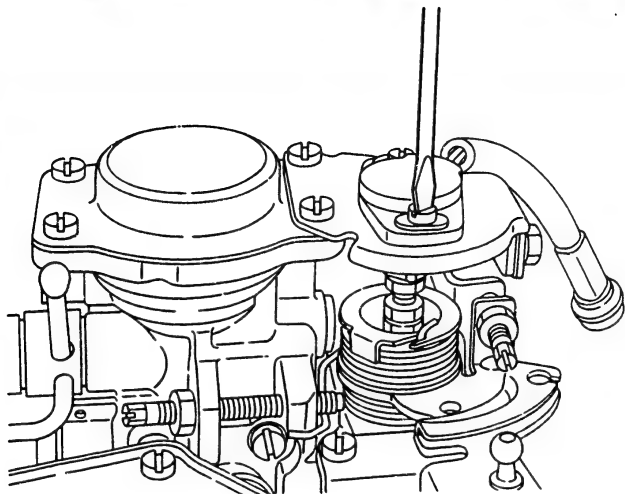

Fig. 220 Fixing the potentiometer
6. Securely fix the potentiometer to the bracket (310/2) with the bolts (310/4) and spring washers (310/3). (Fig. 220)